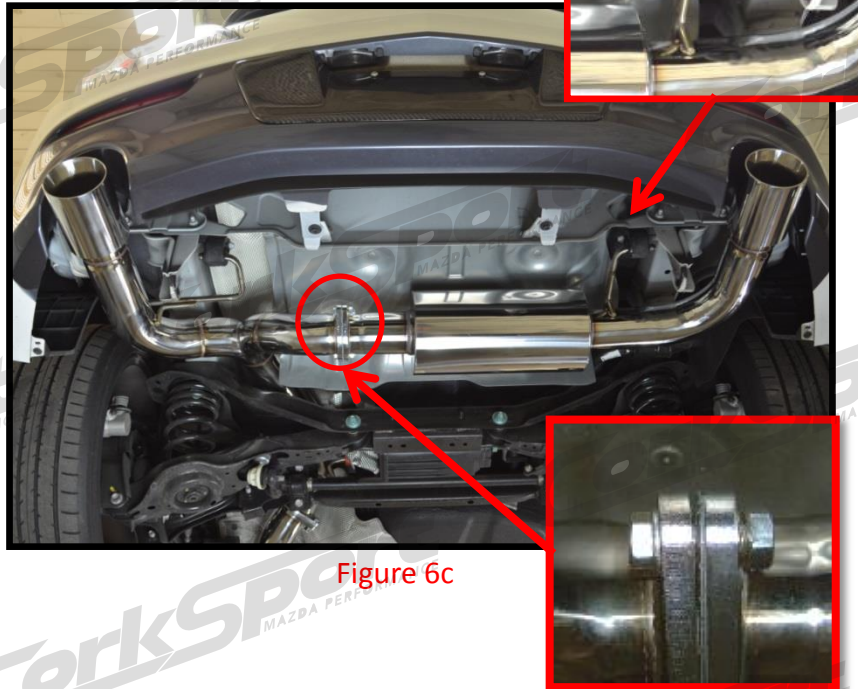

Figure 6c
- c) Attach the passenger exit side of the exhaust the axle back section over the sub-frame and hook it into the rubber hanger (Figure 6c). Leave hand tight at this time.
- e) Fully tighten the two (2) 17mm bolts at the dual exit connection and torque to 35ft-lbs. (red circle in Figure 6c)